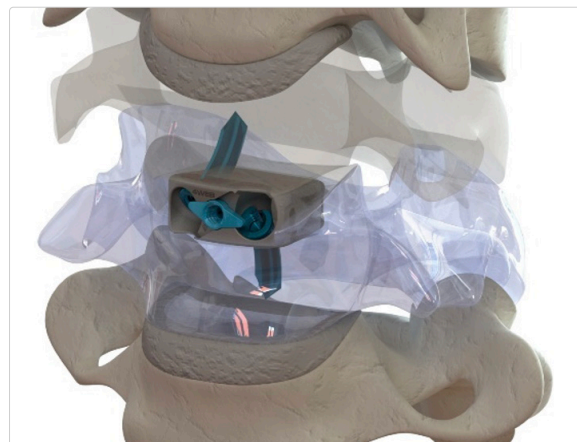

Figure 11
- Rotate the Locking Plate with the Straight Driver to approximately 90° clockwise to lock the Fixation Anchors into the Implant Assembly (Fig. 11). The wings of the Locking Plate will stop against the recess on the anterior face of the interbody.